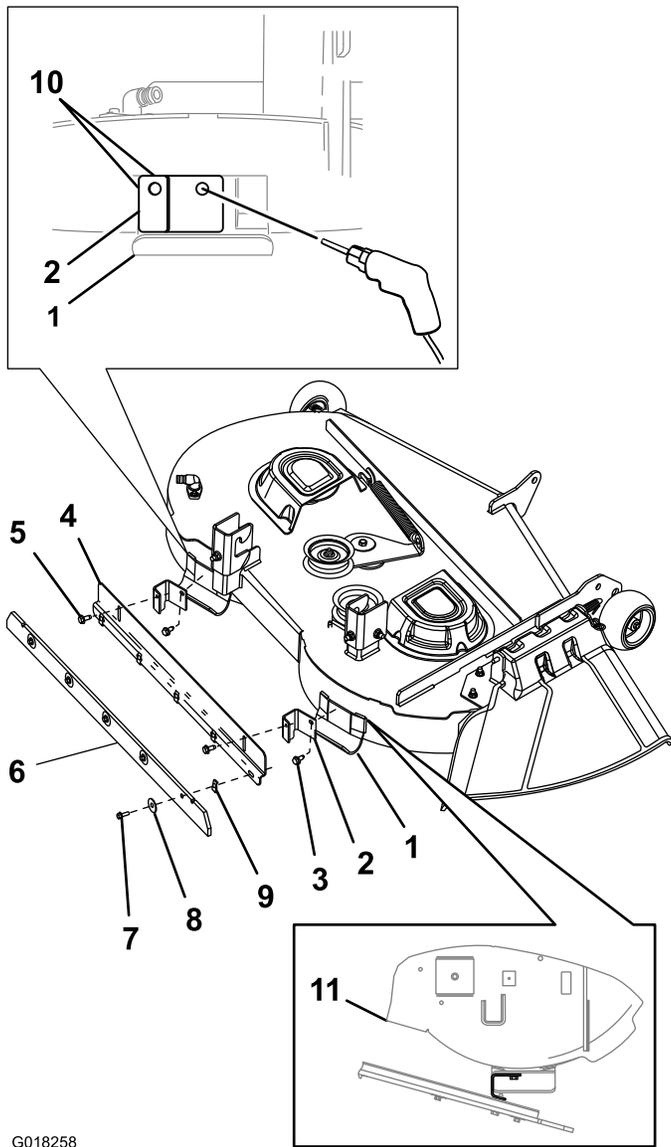

Figure 1
- A. Locate the right skid on the rear facing side of the mower deck as shown in Figure 1.
- B. Position the longer leg of the mounting bracket for the striping kit against the right skid. Align the left edge of the mounting bracket with the left edge of skid and the top edge of the mounting bracket with the top edge of the right skid (Figure 1).
- C. Mark the outline of the mounting bracket hole skid (Figure 1).
- A. Locate the left skid on the rear facing side of the mower deck as shown in Figure 1.
- B. Position the longer leg of the mounting bracket for the striping kit against the left skid. Align the left edge of the mounting bracket with the left edge of skid and the top edge of the mounting bracket with the top edge of the left skid (Figure 1).
1. Align the striping bracket so that the mounting flange is up and facing the mower deck (the wiper flange is down and away from the deck) as shown in Figure 1.
2. Align the top of the slot in the mounting flange of the striping bracket with the hole in the short leg of each mounting bracket installed on the skids (Figure 1).
3. Secure the striping bracket to each mounting brackets with the self-threading, washer-head screws (Figure 1).